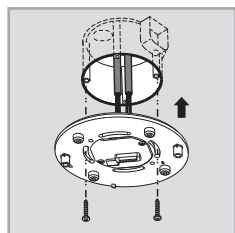

FIG.13
3.3.3.3 Fit the power box into European standard junction box then fix them with two screws (See FIG.13).